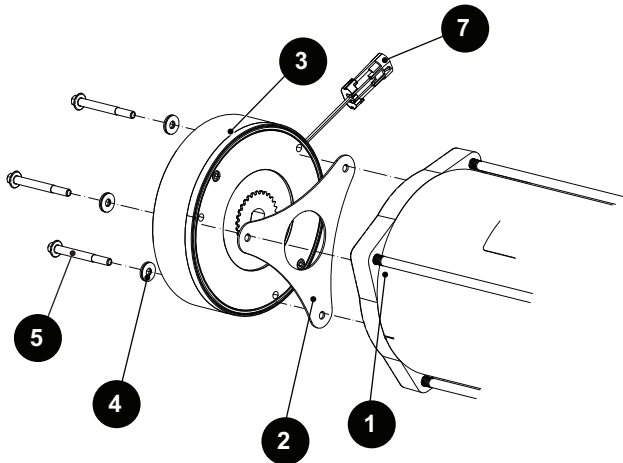
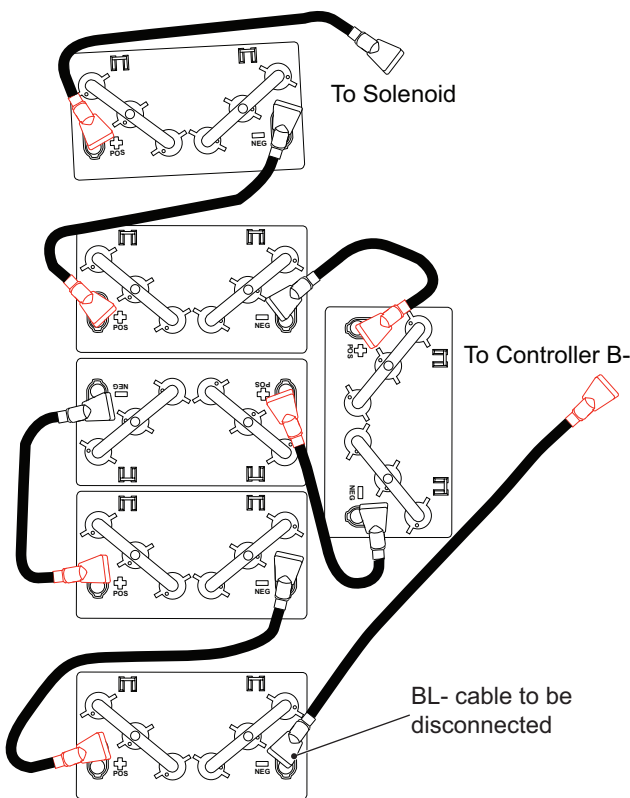

Fig. 1 Motor Brake
Fig. 2 Disconnect Battery Cable
1. Use an insulated wrench to disconnect the negative (-) battery cable from the battery (Ref. Fig. 2).
2. Disconnect the harness from the motor brake connector (7).
3. Remove the three bolts (5) and washers (4) that secure the motor brake (3) to the motor (1).
4. Remove the motor brake (3).
5. Make sure to retain the gasket (2) for reassembly or replace it if it is damaged (Ref. Fig. 1).